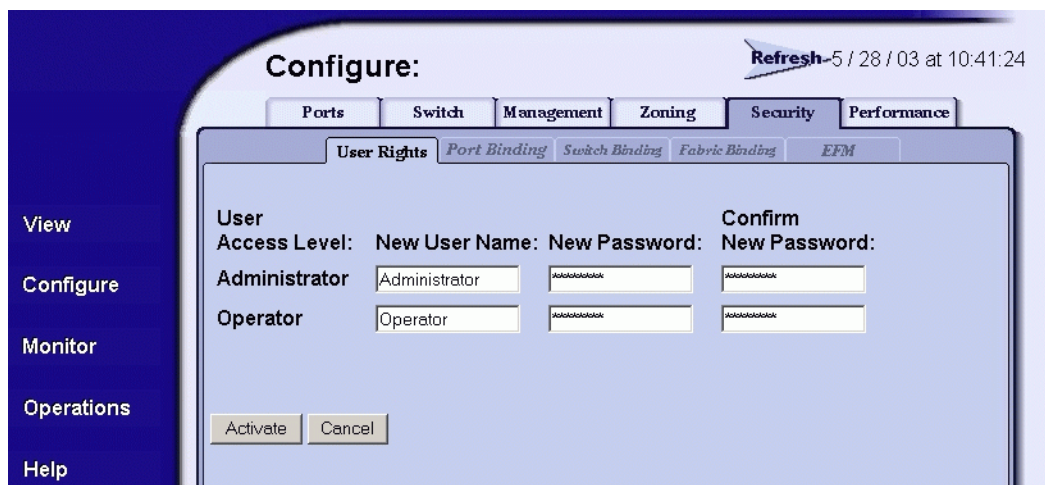

Figure 2-18 Configure Panel (Security Page with User Rights Tab)
1. At the *Configure* panel, click the *Security* tab. The *Security* page displays with the *User Rights* tab selected (Figure 2-18 on page 2-30).